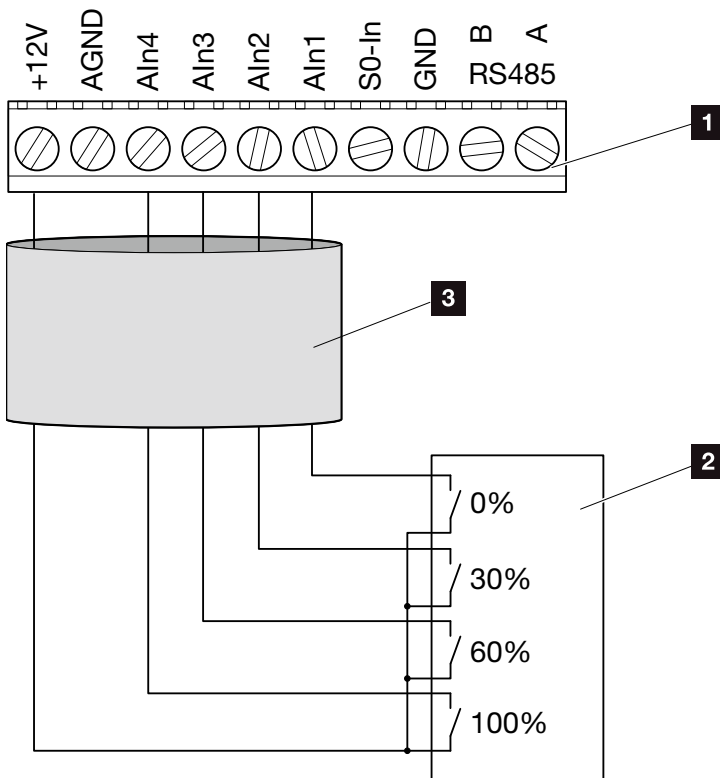

Fig. 62: Connection of ripple control receiver
3. Connect the ripple control receiver to the master inverter  **Fig. 61 It. 1** on the analogue interface terminal (10-pin).  **Fig. 62**